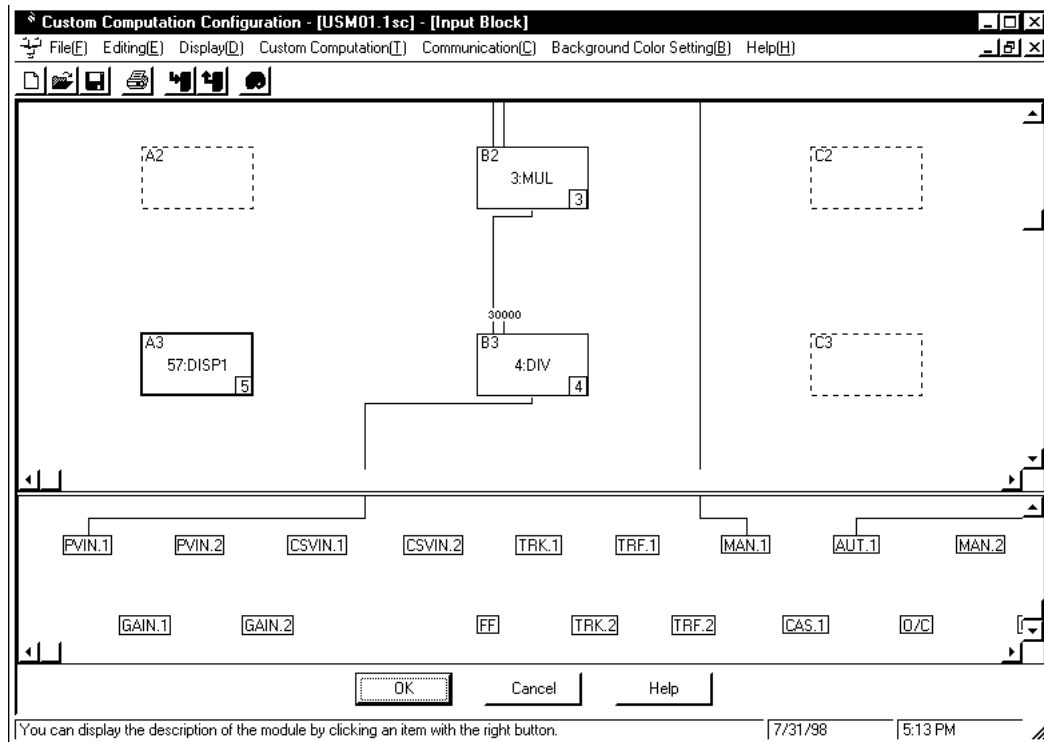

Figure 12.2.3 Example of the [Input Block] Dialog Box where the DISP1 Module Is Registered as the Fifth-run Module
- ③ Double-click <57: DISP1>. The DISP1 module is registered with the [Input Block] dialog box, as shown in Figure 12.2.3.